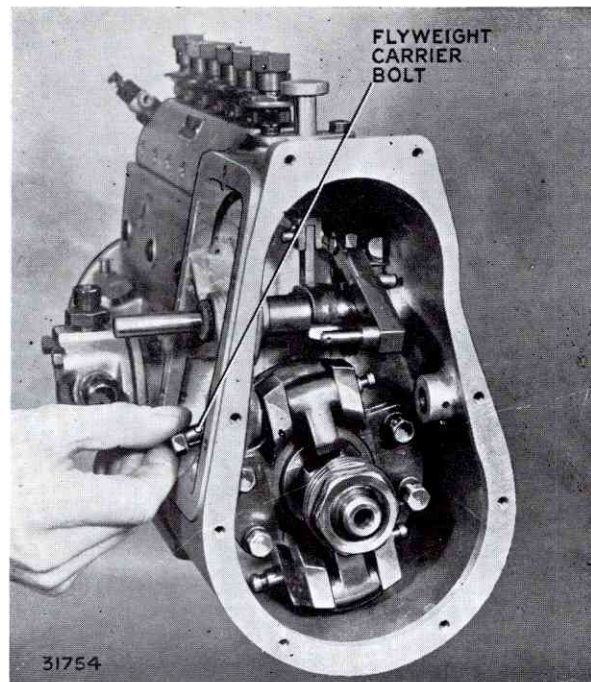

FIG. 86. REMOVING FLYWEIGHT CARRIER BOLT
6. Remove the flyweight carrier bolts and withdraw the flyweights (Fig. 86).